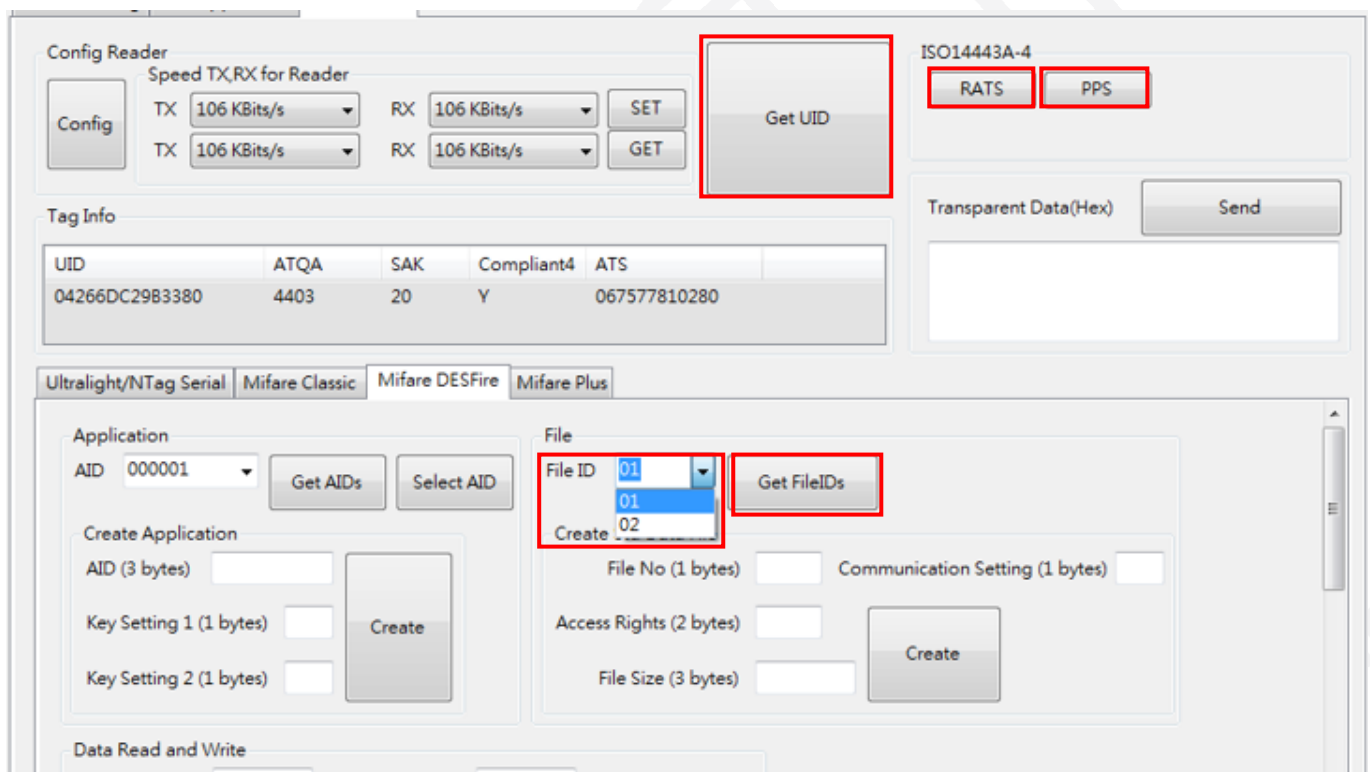

Figure 8.4-1 Get FileIDs
4. Click “Get FileIDs” button to get the File IDentifiers of all active files within the currently selected application, as shown in Figure 8.4-1.